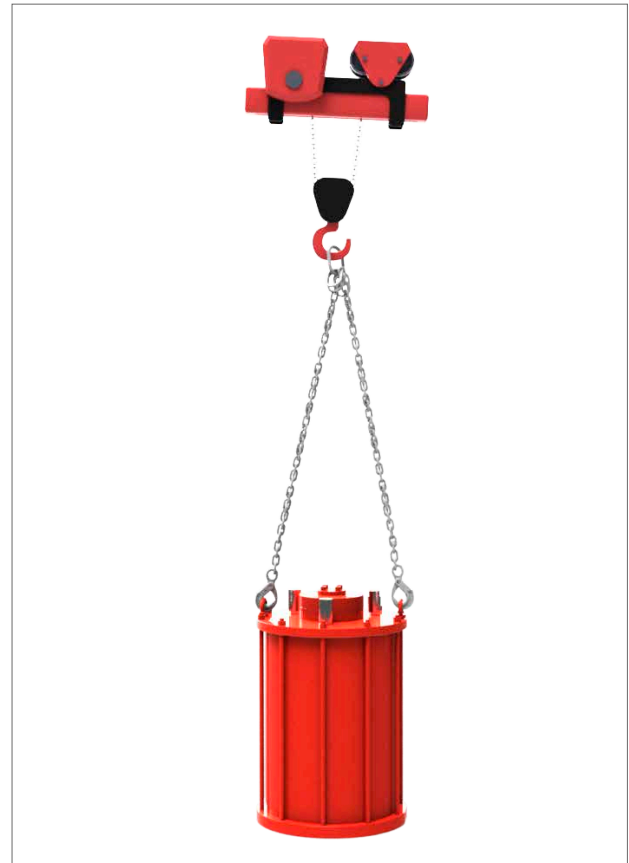

Fig 7.1 Lifting (single-acting actuator up to size 130)
- Hook a double chain sling on the lifting lugs as shown in Figure 7.1